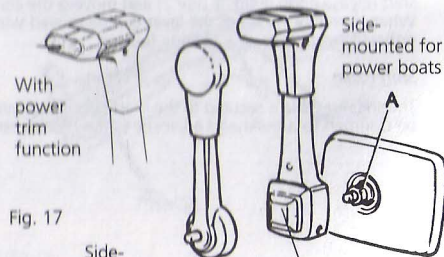

Fig. 17
- Grease the shaft splines (A fig. 17) sparingly and install the lever.
- Move the lever to engaged gear position. Push the neutral position button (B fig. 17 & 18) firmly in place.